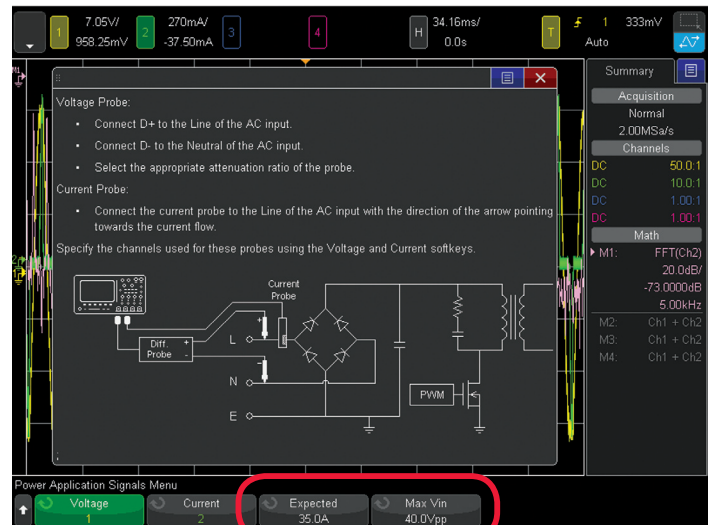

Figure 13: Setting “expected” inrush current and peak-to-peak line voltage for a single-shot inrush current measurement
4. Press the Signals softkey; then connect the N2790A voltage probe between the scope’s channel-1 input to Line (red lead) and Neutral (back lead) as illustrated in the connections diagram shown in Figure 13. If using Keysight’s SMPS training kit, connect to TP2 (red lead) and TP1 (black lead) on the demo board.